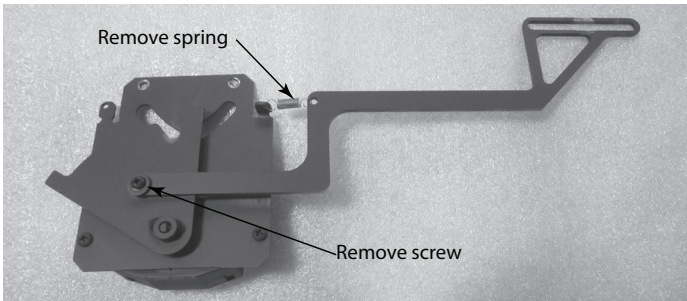

Figure 4.30 Removal of Linkage Arm and Spring
6. Remove the linkage arm and the spring from the timer. See Figure 4.30.